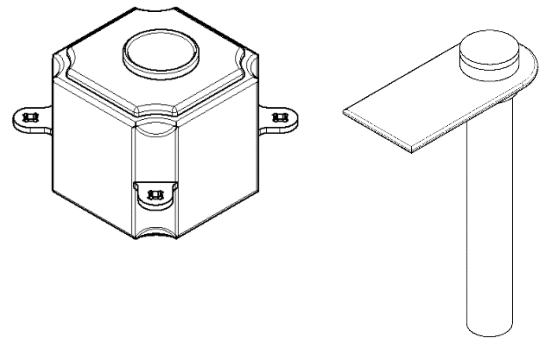
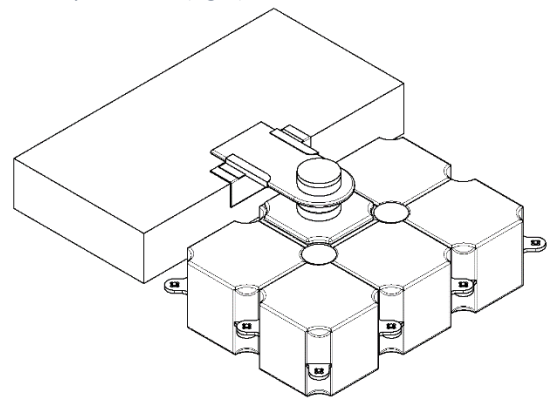

Figure 1 – Modular Cube Stabilizer (left) and Modular Cube System Post (right)
Figure 2
1. The Modular Cube Stabilizers (Figure 1) are meant to be installed in place of a modular cube of the boat lift. See Figure 2.